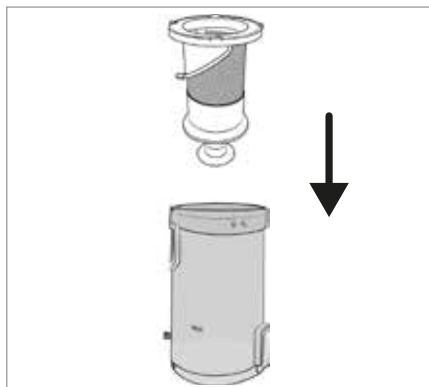

Fig. 23
- When cleaning the stainless steel filter ⑥, take care not to lose the rubber supports on the lower opening.
- 6) Insert the stainless steel filter ⑥ into the dust container ⑦ and push it all the way down (see Fig. 23). Pay attention to the different sized locks on the stainless steel filter ⑥. The stainless steel filter ⑥ can only be inserted into the dust container ⑦ in one position due to these locks.